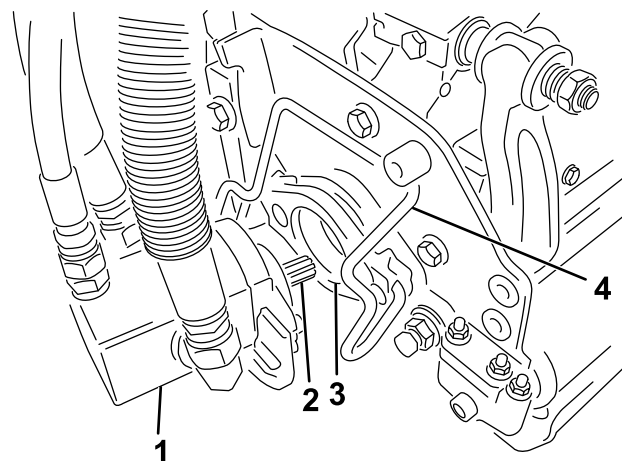

Figure 13
7. Coat the spline shaft of the cutting unit motor with clean grease (Figure 13).
8. Insert the motor into the left side of the cutting unit (as viewed from the operator's position) and pull the motor retaining bar on the cutting unit toward the motor until you hear an audible “click” from both sides of the motor (Figure 13).